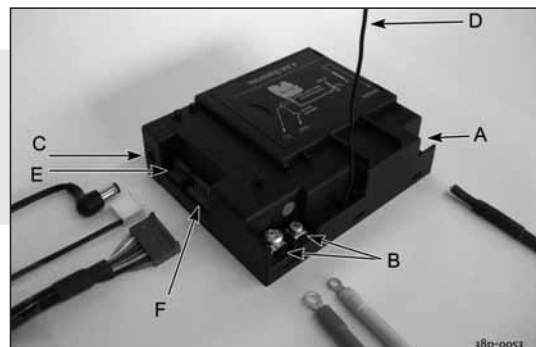

fig. 11
Follow the procedure below (see fig. 11):
- Fit the connection cable's brown plug to the receiver (see fig. 11, arrow F).
- Connect the cables of thermocouple 1 to the receiver; (see fig. 11, arrows B).
Connect the black wire with the white plug of thermocouple 2 to the receiver (see fig. 11, arrow E).
- Connect the ignition cable to the receiver; (see fig. 11, arrow A)
- connect it to the receiver; (see fig. 11, arrow C);
- Bend the antenna out of the clips; see fig. 11, arrow D.